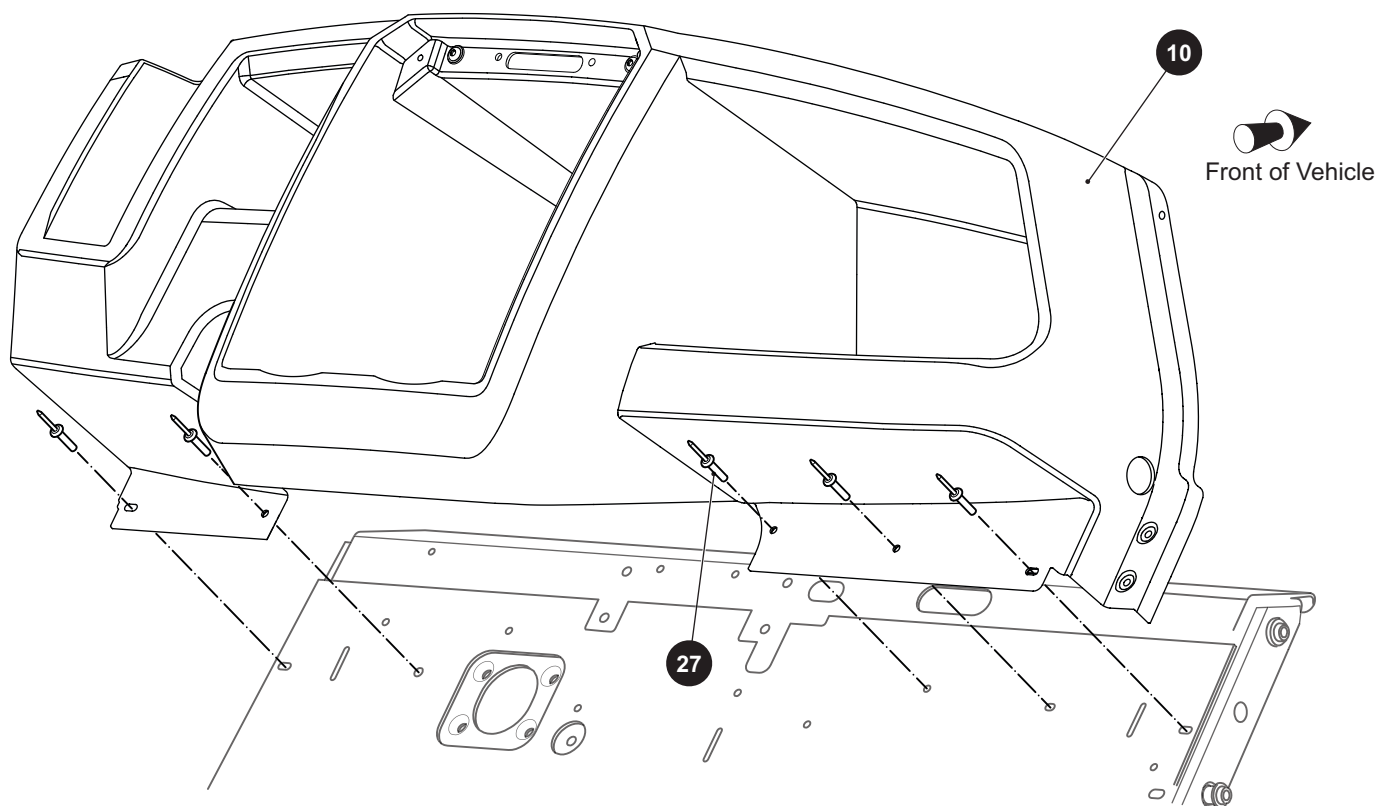

Figure 7 Instrument Panel (Front)
3. Drill out the rivets (27) securing the instrument panel (10) to the floor (Ref. Figure 7).